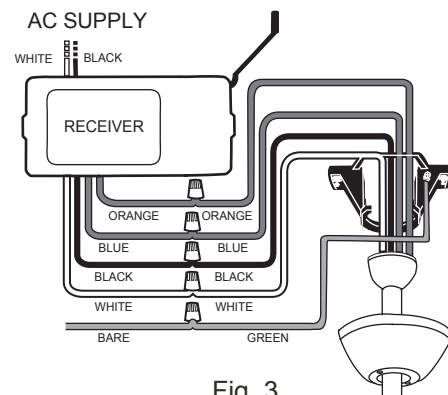

Fig. 3
- d. Make connections as follows, using the wire nuts supplied (Fig. 3):
- f. Lay the black antenna wire on top of the receiver, and put the receiver in the mounting bracket. (Fig. 3)